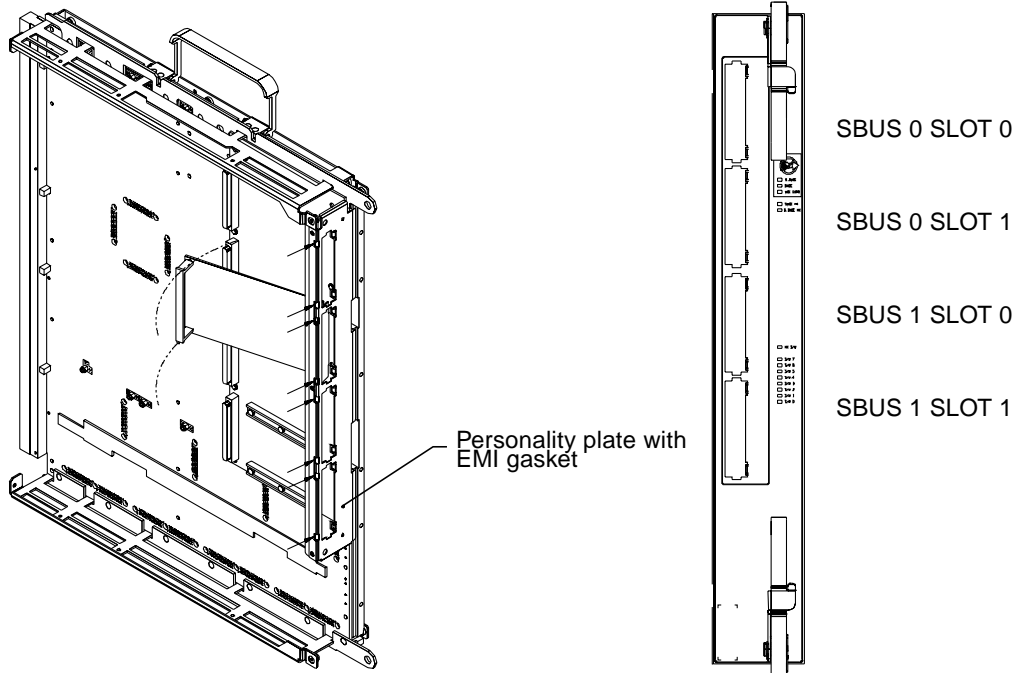

FIGURE 2 SBus Card Removal
2. Lift the SBus card from the socket at an angle while guiding the faceplate out from the back panel opening (FIGURE 2 on page 4).